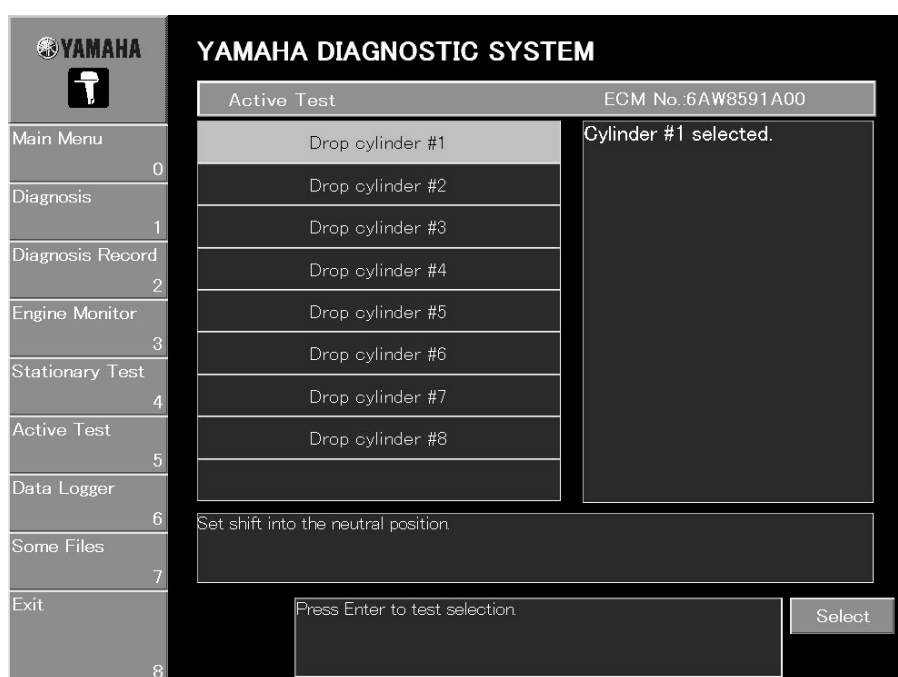

Fig. 102
1. Select which ignition and fuel you wish to cut by either clicking it or pressing the up or down arrow keys on your keyboard. (See fig. 102.)
2. Click the **Select** button or press the Enter key on your keyboard. (See fig. 102.)